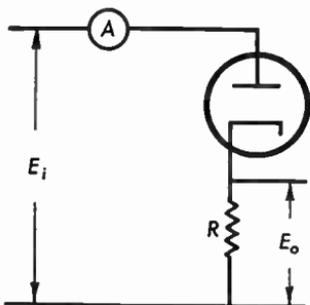

Fig. 8.10 Diode detector.
8.10 The diode detector of Figure 8.10 has a plate resistance of 5000 ohms. The peak input signal $E_i = 30$ volts. When a load resistor of $R = 0.5$ megohms is used, the ammeter reads 40 microamperes. What is the efficiency of the detector?